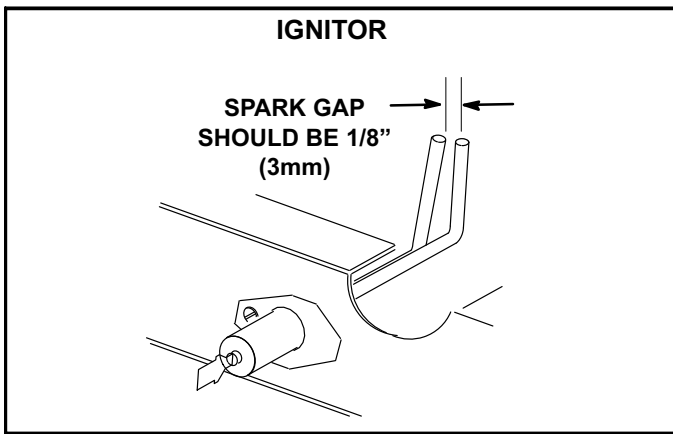

FIGURE 19
- 5- Locate the ignitor under the right burner. Check ignitor spark gap with appropriately sized twist drills or feeler gauges. See figure 19.